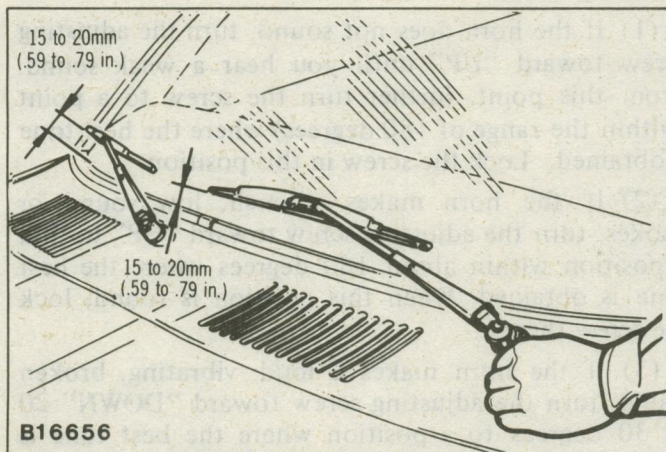

Fig. 144 Wiper Blade Adjustment
(1) When installing the wiper arm shaft to the body, insert the shaft bracket positioning boss positively in the hole provided in the body.
(2) After installing the linkage and related parts, adjust the wiper blade stop position as illustrated. Then securely tighten the wiper arm nut to the standard torque. (Fig. 144)